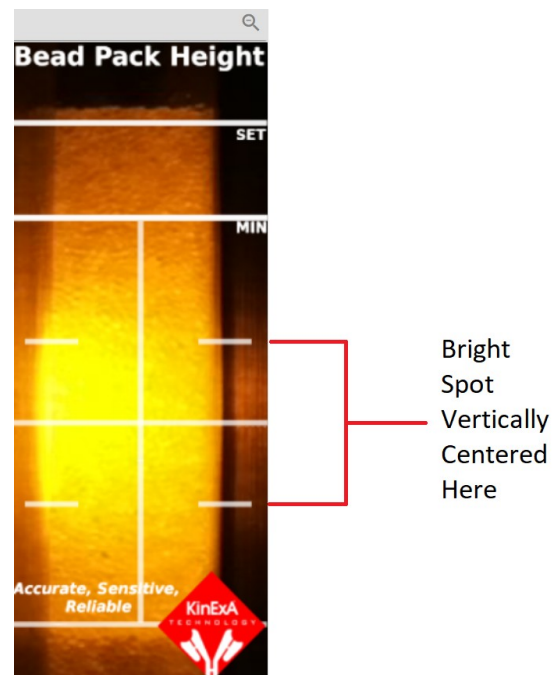
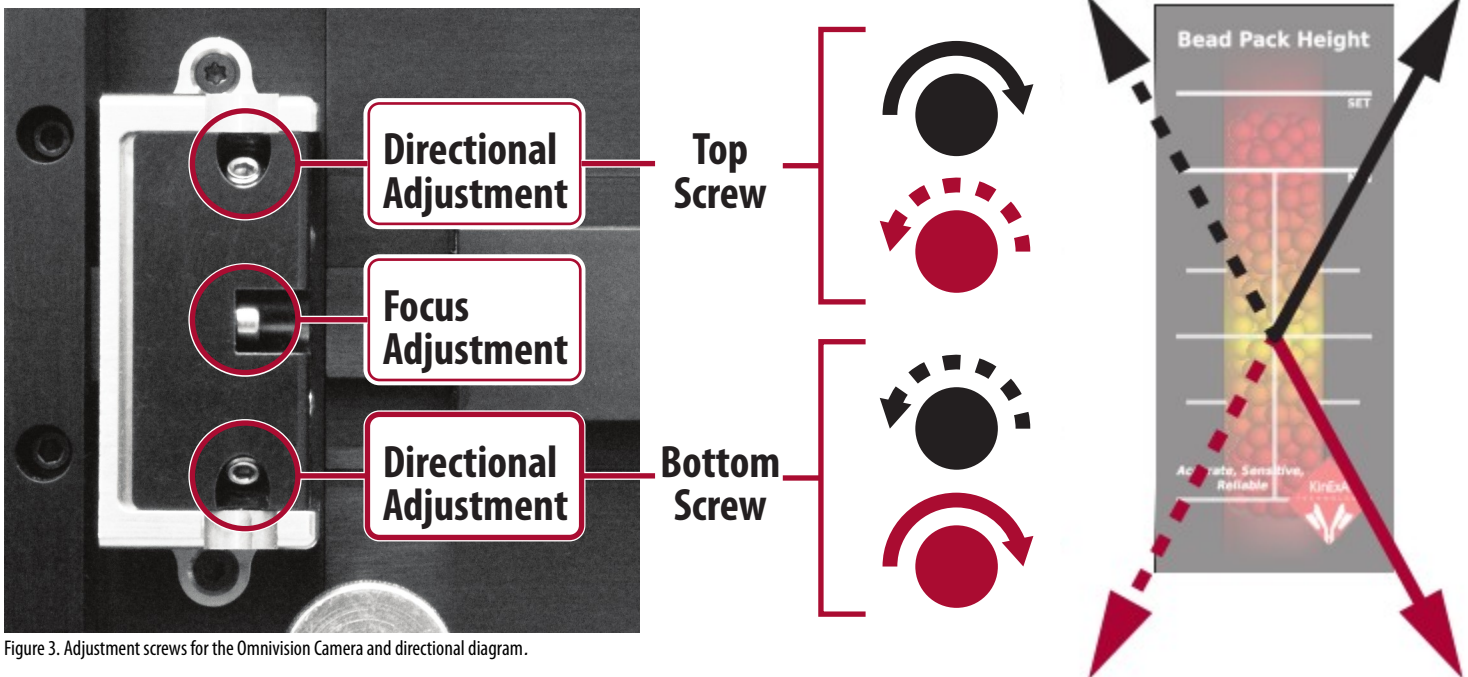

Figure 2. Camera Image with the Flow Cell and bright spot correctly aligned with the grid lines.
Figure 3. Adjustment screws for the Omnivision Camera and directional diagram.
4. A browser will open up to display the Flow Cell and grid lines to assist with alignment (**Figure 2**).
5. Use **Figure 3** to identify the adjustment screws of the camera.
7. Use the directional adjustment screws to vertically align the bright spot of light and to horizontally align the Flow Cell in the center of the grid lines (**Figure 2**). The camera does not move straight up, down, left, or right. **Figure 3** shows how turning the top and bottom screws will move the camera image seen in the software (**Figure 2**). There is a slight delay in response on the computer monitor so be patient for the screen to update after slight movements. If preferred, the camera view can be zoomed by clicking the **Magnifying Glass** icon to the upper right of the camera image.